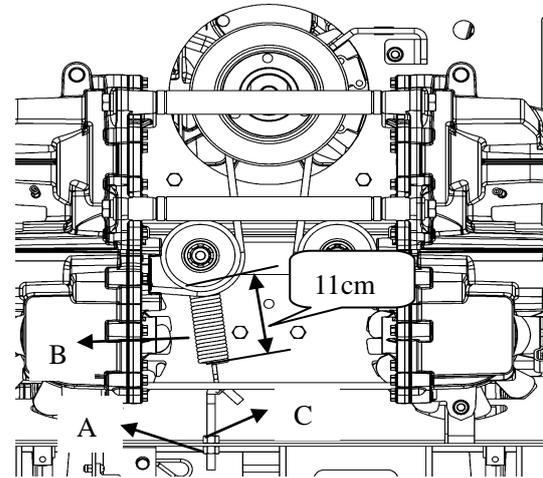

Figure 19
The belt tension is set at the factory, but may need adjustment after the first hour of initial use. Periodically belt should be checked for proper tension, following the procedure below (Refer to Figure 19).
The way is similar to the above of Deck Belt Adjustment, The idler spring (B) body length should measure approximately 11cm inches for proper belt tension (Refer to Figure 19).